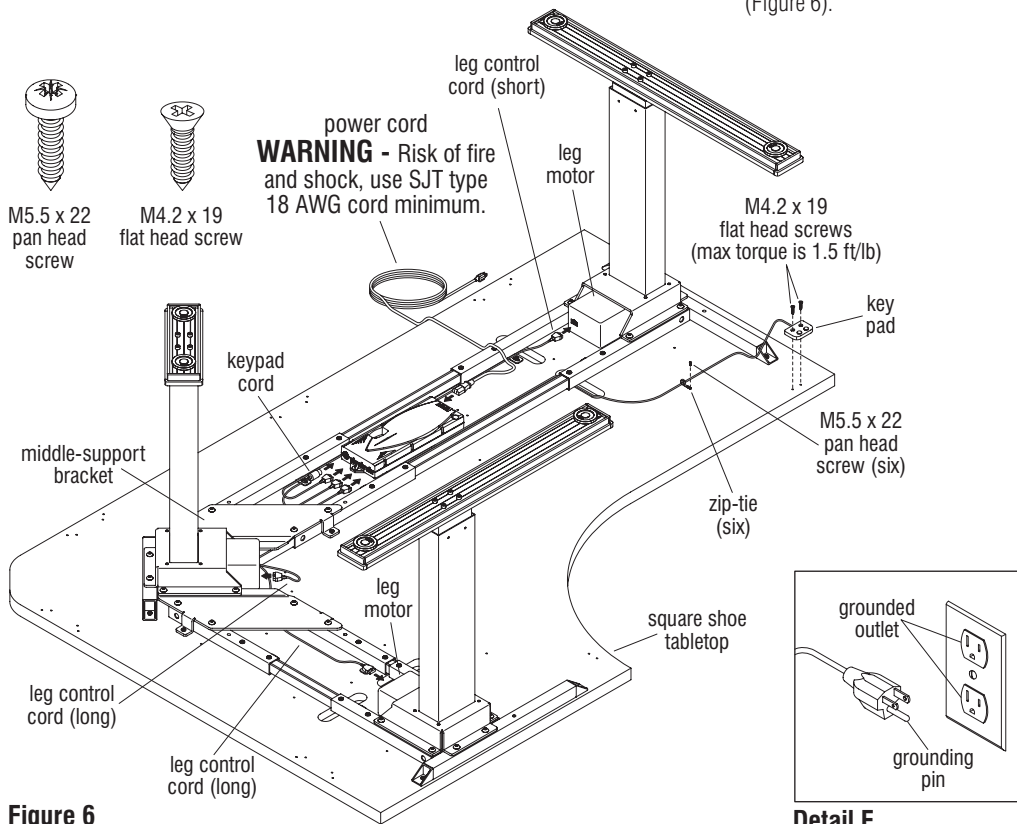

Figure 6
1. **Leg Cord - Long:** Plug the longer leg control cord into one of the three rectangular sockets on the control box, then route cord to the leg farthest from control box. Use cut outs in the table to route under the cross tubes and/or use zip ties secured with screws at pre-drilled locations. Cables can also be routed on the sides of the middle leg and under the middle support brackets to route around the cross-support tubes as illustrated in Figure 6. Plug other end of the longer leg control cord into the open socket on leg motor (Figure 6).
2. **Leg Cord - Short:** The next rectangular socket on the control box is utilized by the shorter leg control cord. Plug short leg cord into control box and route to the leg motor socket that is closest to the control box. Use cut outs in table to route under the cross tubes. Cables can also be routed on the sides of the middle leg and under the middle support brackets to route around the cross-support tubes as illustrated in Figure 6. Plug other end of the shorter leg control cord into open socket on leg motor (Figure 6).
3. **Key Pad:** The key pad mounts in one of two locations on the front side of tabletop (Figure 6). Using pre-drilled holes, secure key pad to tabletop with two M4.2 x 19 flat head screws at 1.5 ft/lb. **Note:** Do not overtighten screws. Once key pad is mounted, route attached cord to control box. Once the key pad cord is routed to control box, plug cord into the round socket on box (Figure 6).
4. **Zip-ties:** Six zip-ties are included for keeping cords tight to table, but it is not necessary to use all six. Using Figure 6 for reference, wrap the zip-ties around the loose cords and then mount the zip-tie to the tabletop with a M5.5 x 22 pan head screw into the pre-drilled holes. The zip-ties have a built in mounting hole which must lay flat onto surface. Make sure zip-ties and cables are snug before moving to next step.
5. **Power Cord:** The final cord to be installed is the power cord. Plug power cord into remaining open socket which is tri-lobe in shape. Cord should not be zip-tied or routed through cut outs on table (Figure 6). Do not plug it into power source at this time.